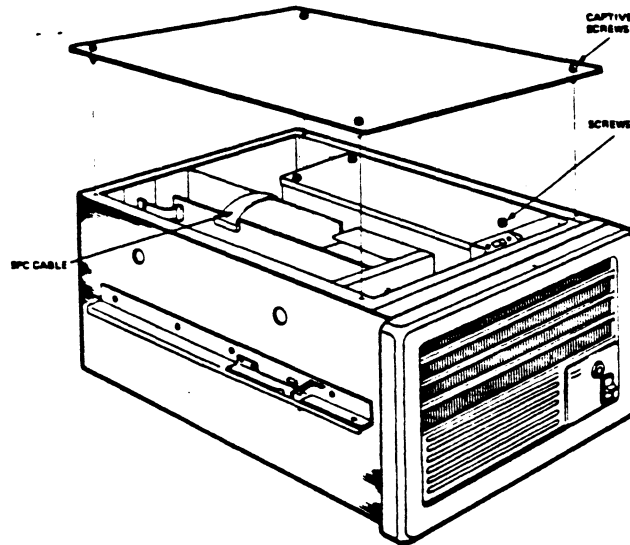

FIGURE 2-33 TOP COVER REMOVAL
9. Loosen the four captive screws that secure the box top cover, and remove the cover. See Figure 2-33.